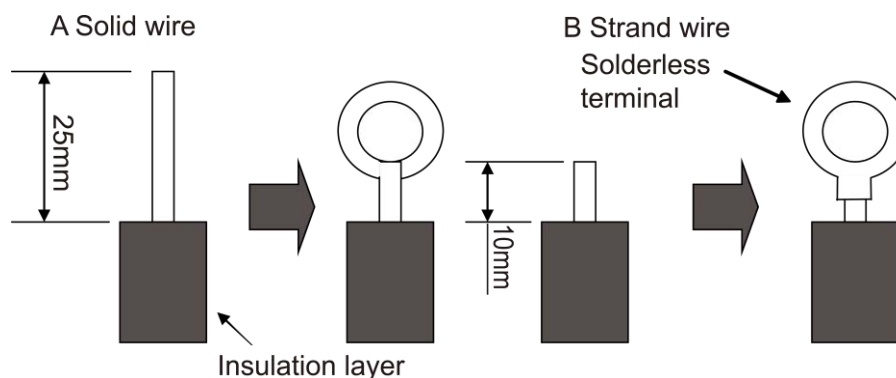

Figure 3-2-6
(1) For solid core wiring (Figure 3-2-6)
(2) For strand wiring (Figure 3-2-6)